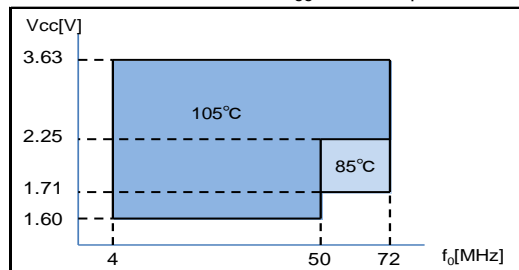

Figure 1: The upper limit of Operating temperature and the related conditions
① ② ③ ④⑤⑥⑦
①Model ②Output (C:CMOS) ③Frequency ④Supply voltage
⑤Frequency tolerance ⑥Operating temperature ⑦Internal identification code ("A" is default)
④Supply voltage Refer to Figure 1
*Figure 1 is on the next page
⑤Frequency tolerance / ⑥Operating temperature
① Model ② Output (C:CMOS) ③ Frequency ④ Supply voltage
⑤ Frequency tolerance ⑥ Operating temperature ⑦ Internal identification code ("A" is default)
④ Supply voltage Refer to Figure 1
⑤ Frequency tolerance / ⑥ Operating temperature